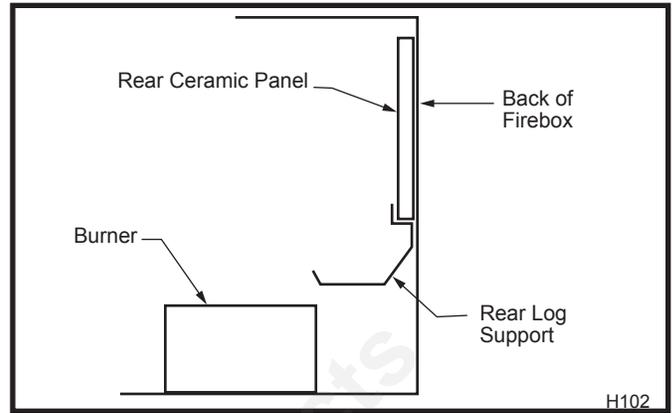

Fig. 83 Rear ceramic panel placement.
3. Place rear ceramic panel in back of unit. (Fig. 83)